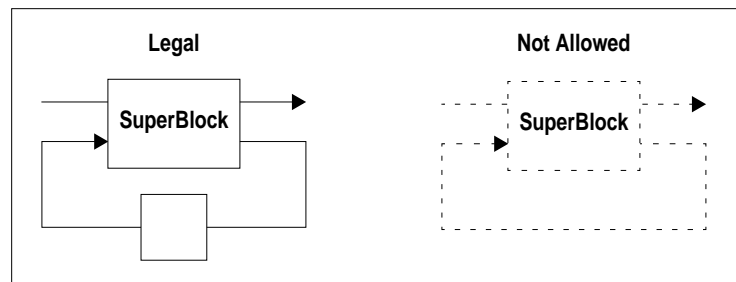

FIGURE 3-2 Legal and Illegal Connections
- A SuperBlock’s outputs cannot be directly connected to its inputs; the output signal must first pass through another block, see Figure 3-2: